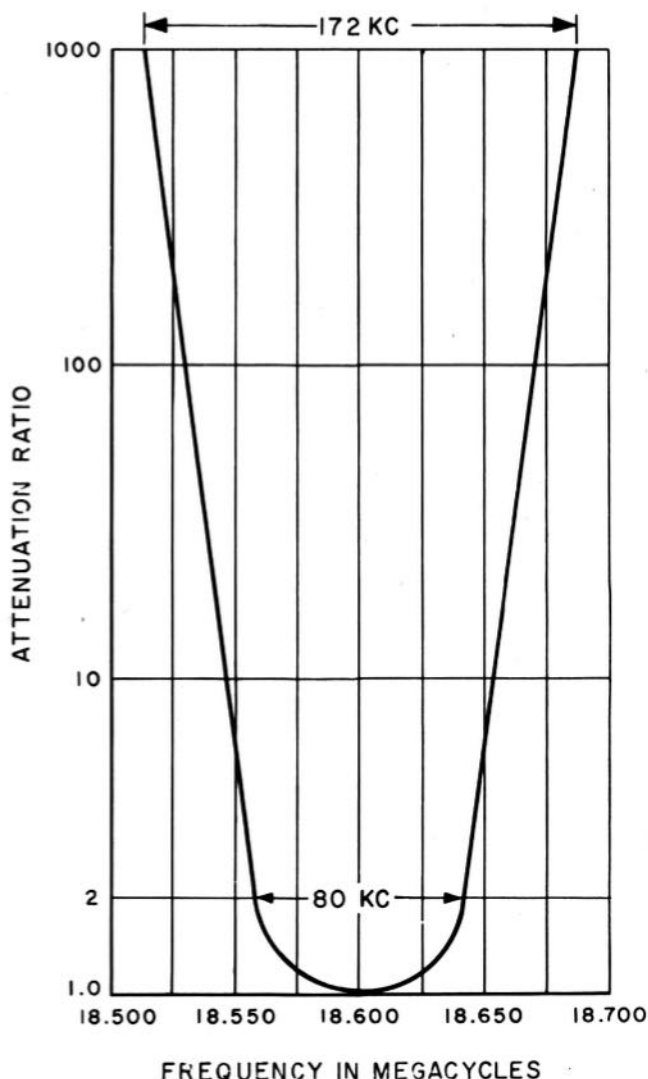

Figure 7-6. Typical I-F Selectivity Characteristic
(18) Repeat steps (10) through (17) until no changes in alignment occur. The over-all i-f selectivity curve appears in figure 7-6.